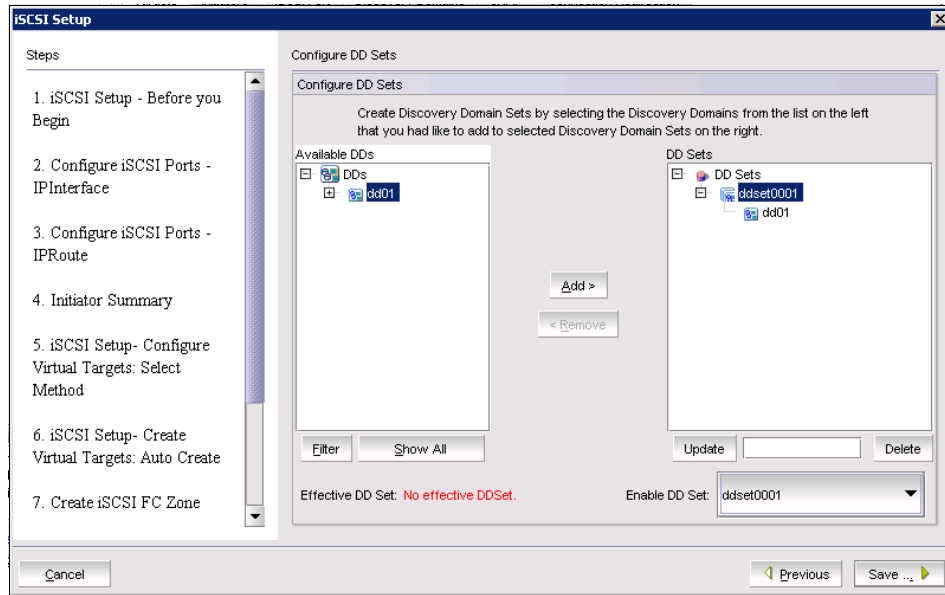

Figure 11-37 Enable ddset001 and save
14. Select **ddset001**, then click **Save** to proceed. See Figure 11-37.